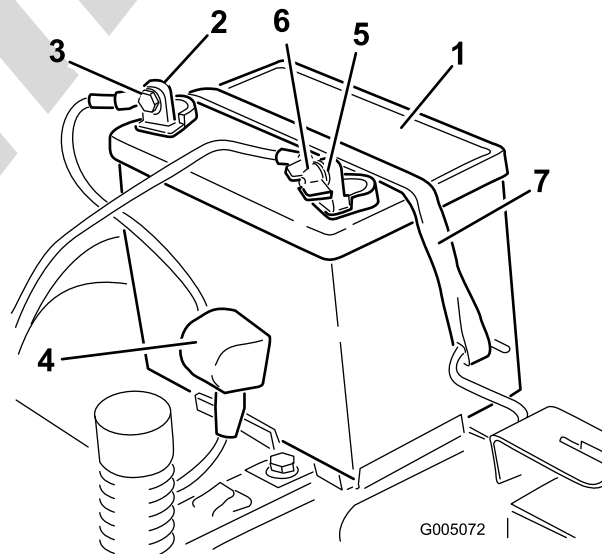

Figure 36
5. Slide the rubber cover up the positive (red) cable. Disconnect the positive (red) cable from the battery post (Figure 36). Retain all fasteners.
6. Remove the battery hold-down (Figure 36) and lift the battery from the battery tray.
4. Disconnect the negative (black) ground cable from the battery post (Figure 36). Retain all fasteners.
1. Position the battery in the tray (Figure 36).
5. Secure the battery with the hold-down (Figure 36).